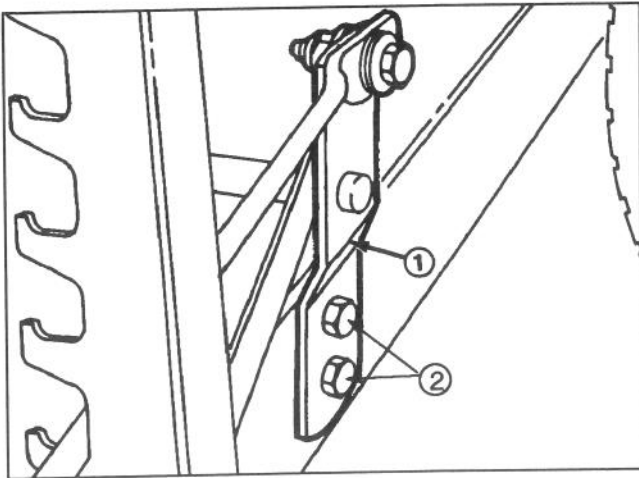

Figure 30
5. If the blade tip height is not within 1/8 inch (3 mm), level the cutting unit by loosening height-of-cut support bracket capscrews and raising or lowering the bracket (Fig. 30).